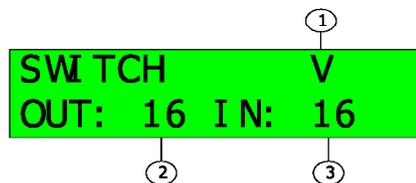

Figure 3: I/O menu
If the panel locked, the device will have a bell warning when press the I/O button, or if the panel unlocked, the LED will display the I/O menu as the following figure 3 when press the I/O button.
- a) Unlock the panel if the panel locked (The LED displays as above figure 3).
- b) Select operation format: Troll the ENTER button to move the cursor to ①, and press the I/O or ENTER button, then the format symbol blinks. Troll the ENTER button to select the format symbol from "A", "V", and "AV", and then press the I/O or ENTER button to set the format symbol. The format symbol "A" means the operation is only to Audio, "V" means the operation is only to Video, and "AV" means the operation is to both Audio